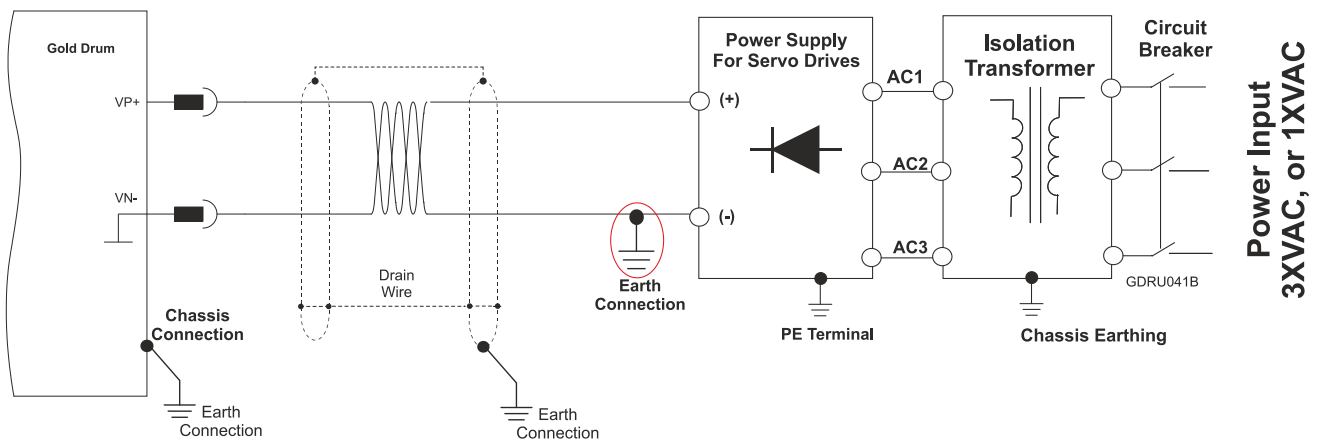

Figure 12: Isolated from the Mains DC Power Supply connection
- In the Isolated connection the G-DRU **VN-** terminal **MUST** be connected to the "Earth Connection" (marked in red in Figure 12 above).